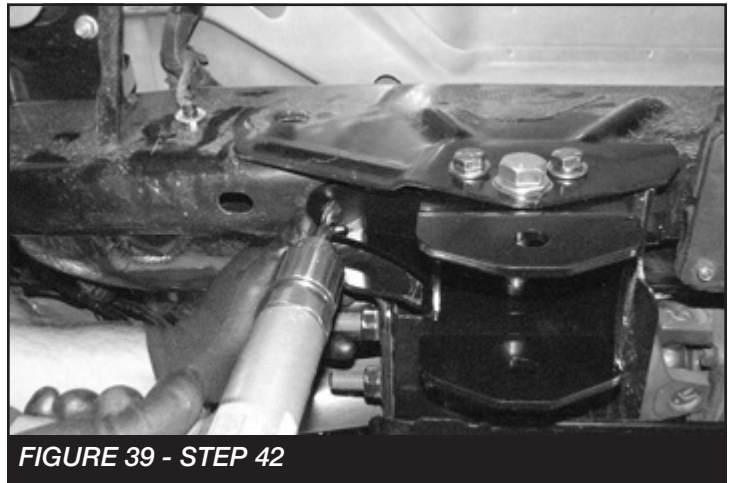

FIGURE 39 - STEP 42
42. Using the Fabtech the radius arm drop bracket as a drill guide, drill a 1/2" hole through the bottom of the frame. **SEE FIGURE 39**